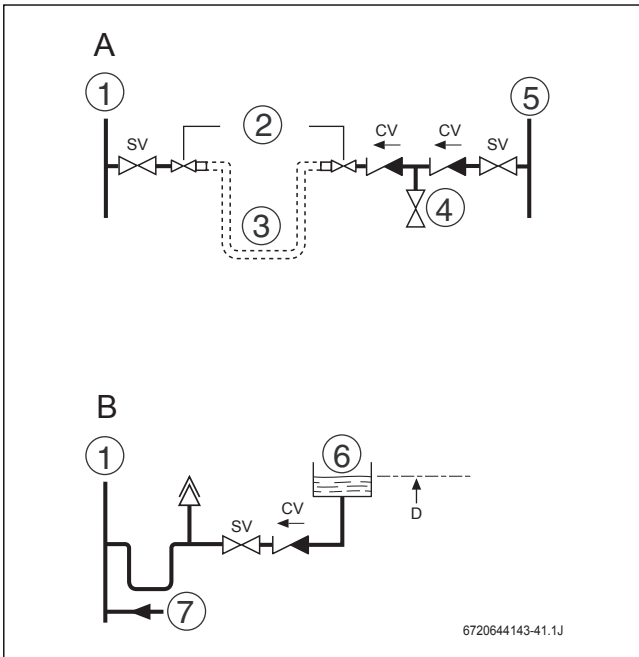

Fig. 5
- The CH sealed system must be filled using an approved filling loop or comply with figure 5 for system fill.